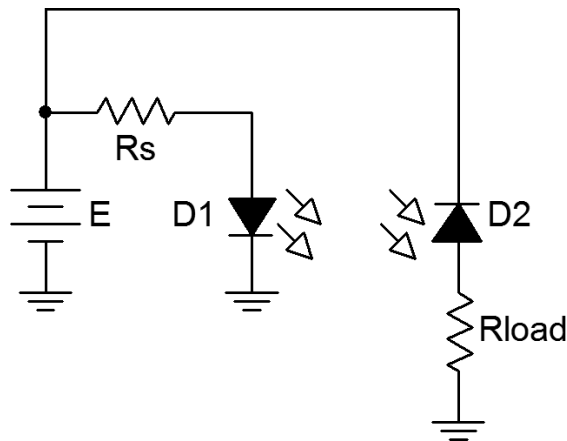

Figure 1
5. Figure 1 shows an emitter/detector pair. These devices will emit and detect light at the same wavelength and tend to not produce or detect light at other wavelengths. This aids in avoiding interference. The detector is configured in photoconductive mode. Its current will increase with increasing light level. This current also flows through R_{load} meaning that V_{load} will be
6. Build the circuit of Figure 1 using $E = 7$ volts, $R_s = 470\ \Omega$ and $R_{load} = 33\ k\Omega$. The emitter diode is denoted with a yellow dot on its case while the detector diode shows a red dot. It is very important that the pair properly be aligned. The bubbles should face each other and cases should be at same height, effectively aiming one bubble at the other. Further, they should only be a few millimeters apart. Finally, the short leads indicate the cathodes.